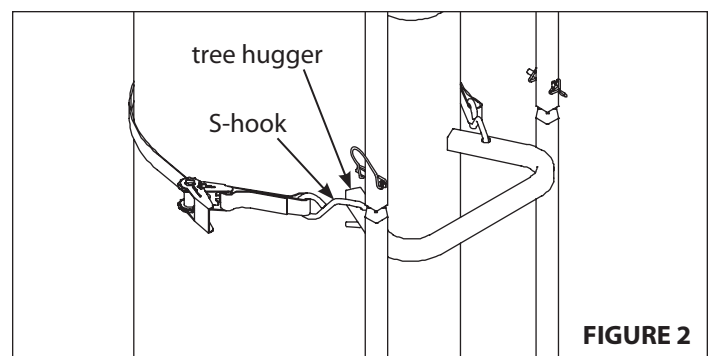

FIGURE 2
2. Hook the S-hook with the long strap through the hole on one of the tree huggers of the lowest ladder section. Feed the long strap through the center slot of the ratcheting mechanism and back around through tightening lever. **SEE FIGURES 2 AND 3A-3B.**
3. Wrap the ratchet assembly around tree and hook other S-hook through opposite tree hugger hole. Pull tail of long strap until most of the slack is taken out. Be sure entire strap is even and at the same level all around tree. Be certain the two contact points of tree hugger are contacting tree. "Ratchet" tight to tree. This will securely attach only the lowest ladder section. **SEE FIGURE 2 AND 3B-3C.**